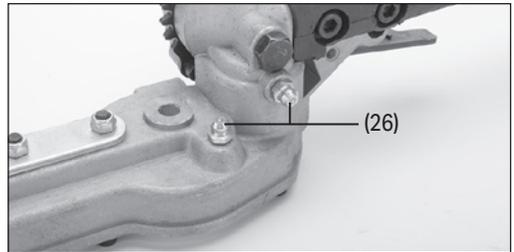

Fig.43
1. Remove the fuel filler cap (5) from the fuel tank (6).
12.6 Hedge Trimmer Gearbox Lubrication (Fig.43)
(Fig.43)